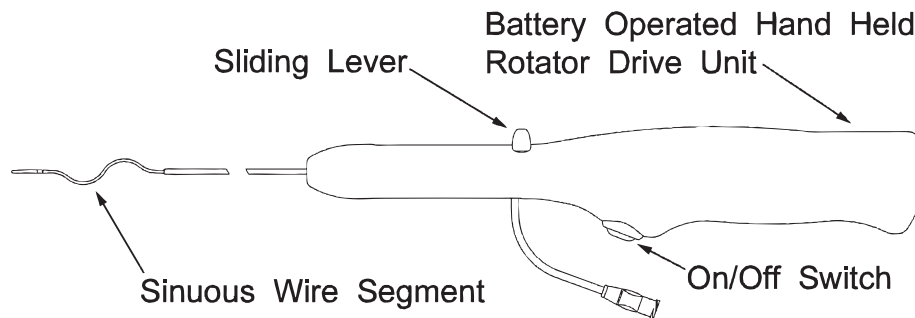

FIGURE 2
2. Remove Cleaner Rotational Thrombectomy System from package. Depress ON/OFF switch to ensure sinuous wire spins freely (refer to Figure 2). Release switch to stop rotator. **Precaution: Do not use device if rotator does not activate immediately when switch is depressed, and deactivate immediately when switch is released.**